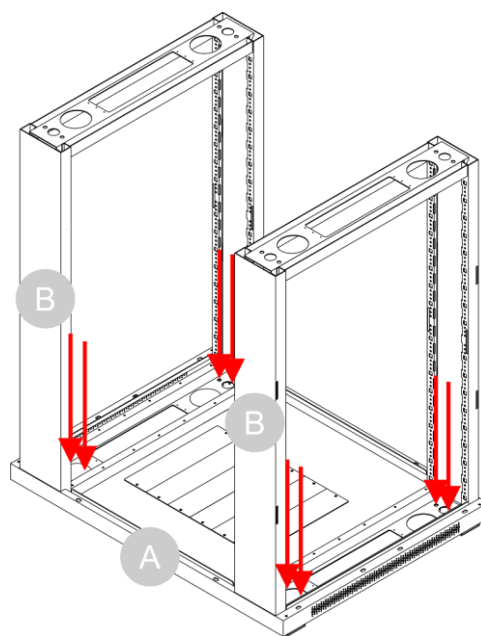

Fig. 20
- 03) Use a socket wrench and a **hex key (R)** to attach the 2 **frames (B)** to the **bottom plate (A)** with 8 **nuts (K)** and 8 **screws (M)**, as shown in Fig. 20.